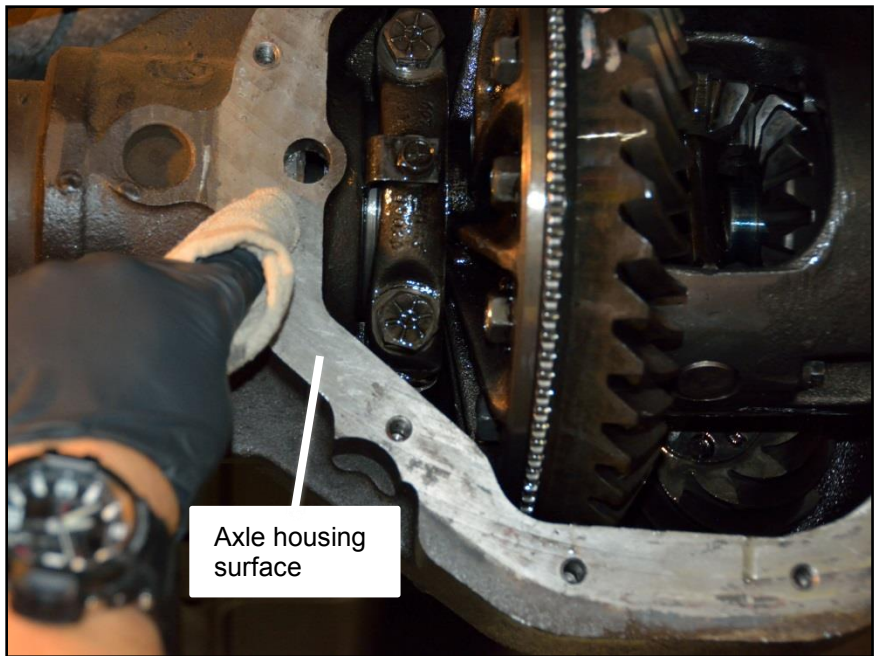

Figure 2
STEP 8. Clean all gasket material from the axle housing surface (See Figure 2).